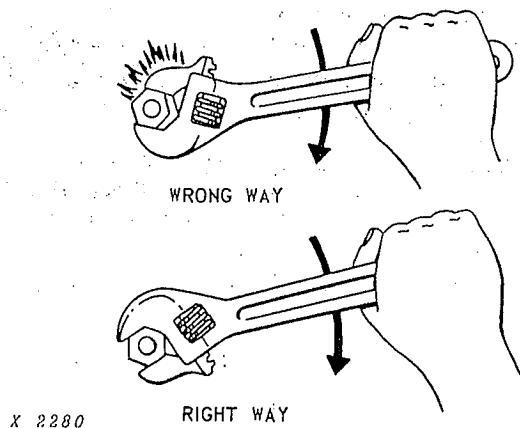

Fig. 26 — Correct Use Of Adjustable Open-End Wrench (Tightening Shown)
- 1. Always place the adjustable wrench on the nut so that the pulling force is applied to the stationary jaw side of the wrench (Fig. 26). This side can withstand much greater force.*